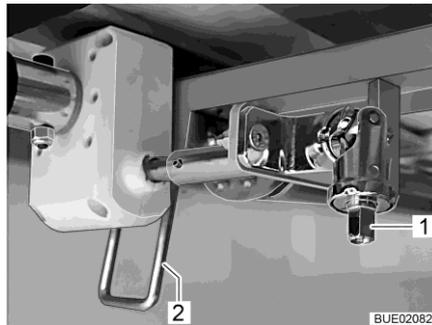

Fig. 142 Height adjustment
- Attach the crank onto the journal (Fig. 142,1).
- Swivel the lever (Fig. 142,2) downwards into vertical position.
- Swivel the lever (Fig. 142,2) upwards into horizontal position.